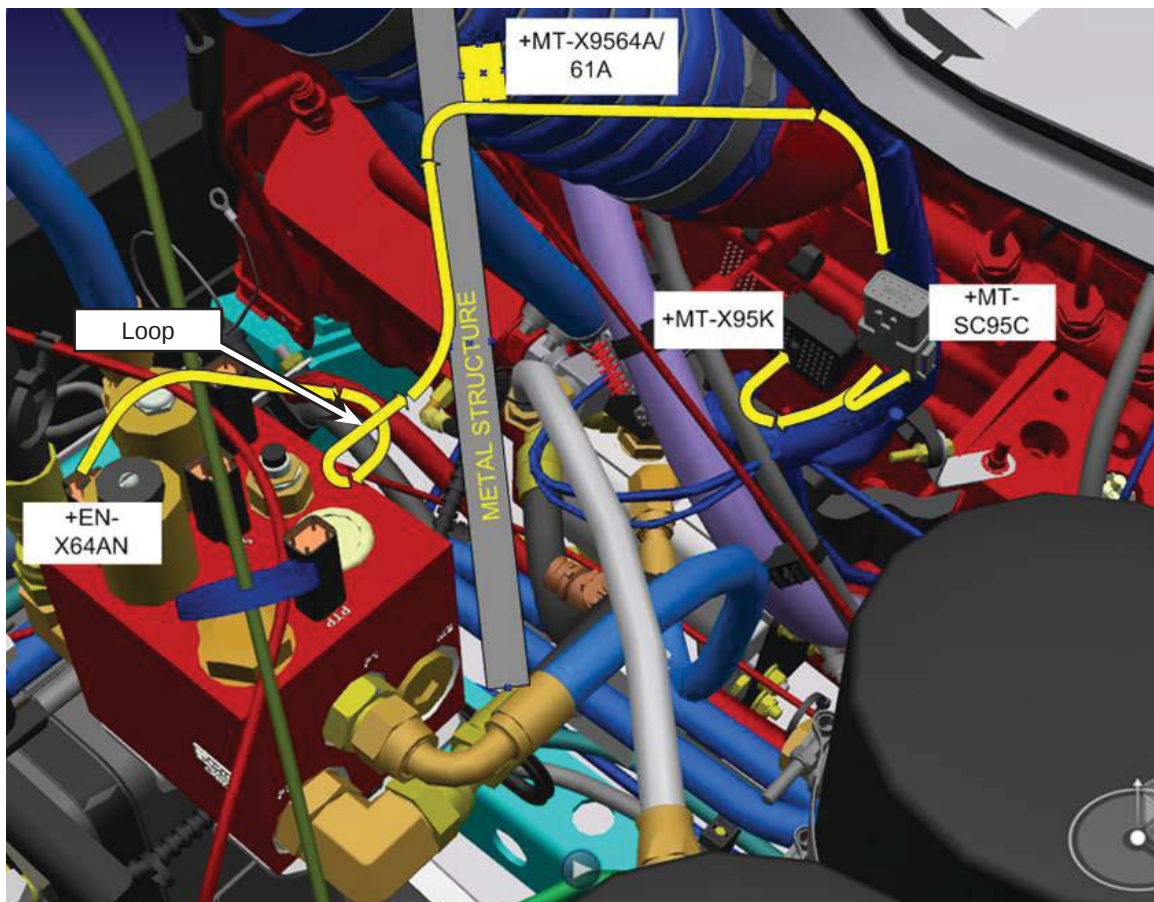

Figure 7 - Routing of the New N632000381 Wire Kit
- 1.15. Route the new N632000381 wire kit with a loop. Attach it to the metal structure, go under the +MT-X9564A/61A connector and follow the other vehicle wiring up to the +MT-SC95C connector. See Figure 7. Secure the wire kit with G5007996 cable ties.
- 1.17. Route the N632000381 cable's last wire (16 WH) by following the other vehicle wiring up to the +MT-X95K connector. See Figure 7.